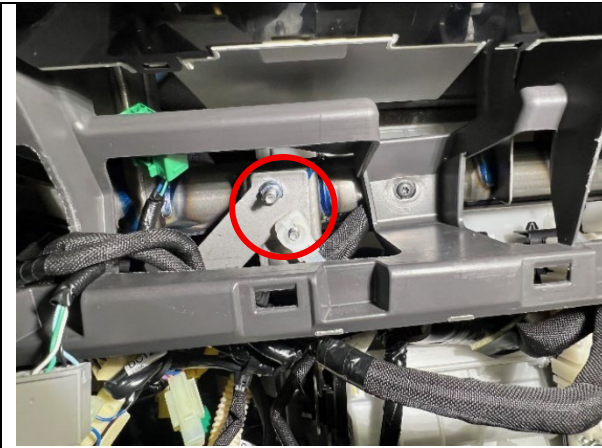
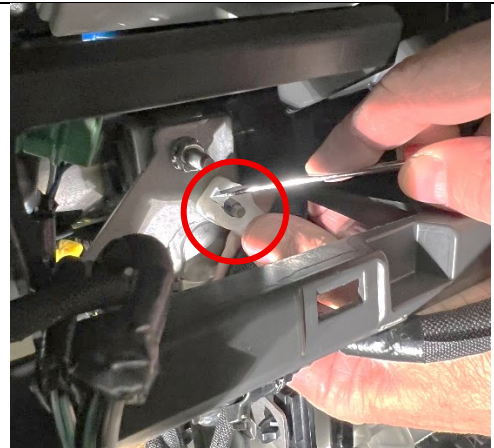

Figure 22
Figure 23
23. Locate the H98 and H99 connector bracket nuts. (See Figure 22.) Unclip the white harness clamp from the bottom nut/stud by pushing up on the tab with a small screwdriver and pulling the clamp outward. (See Figure 23.)